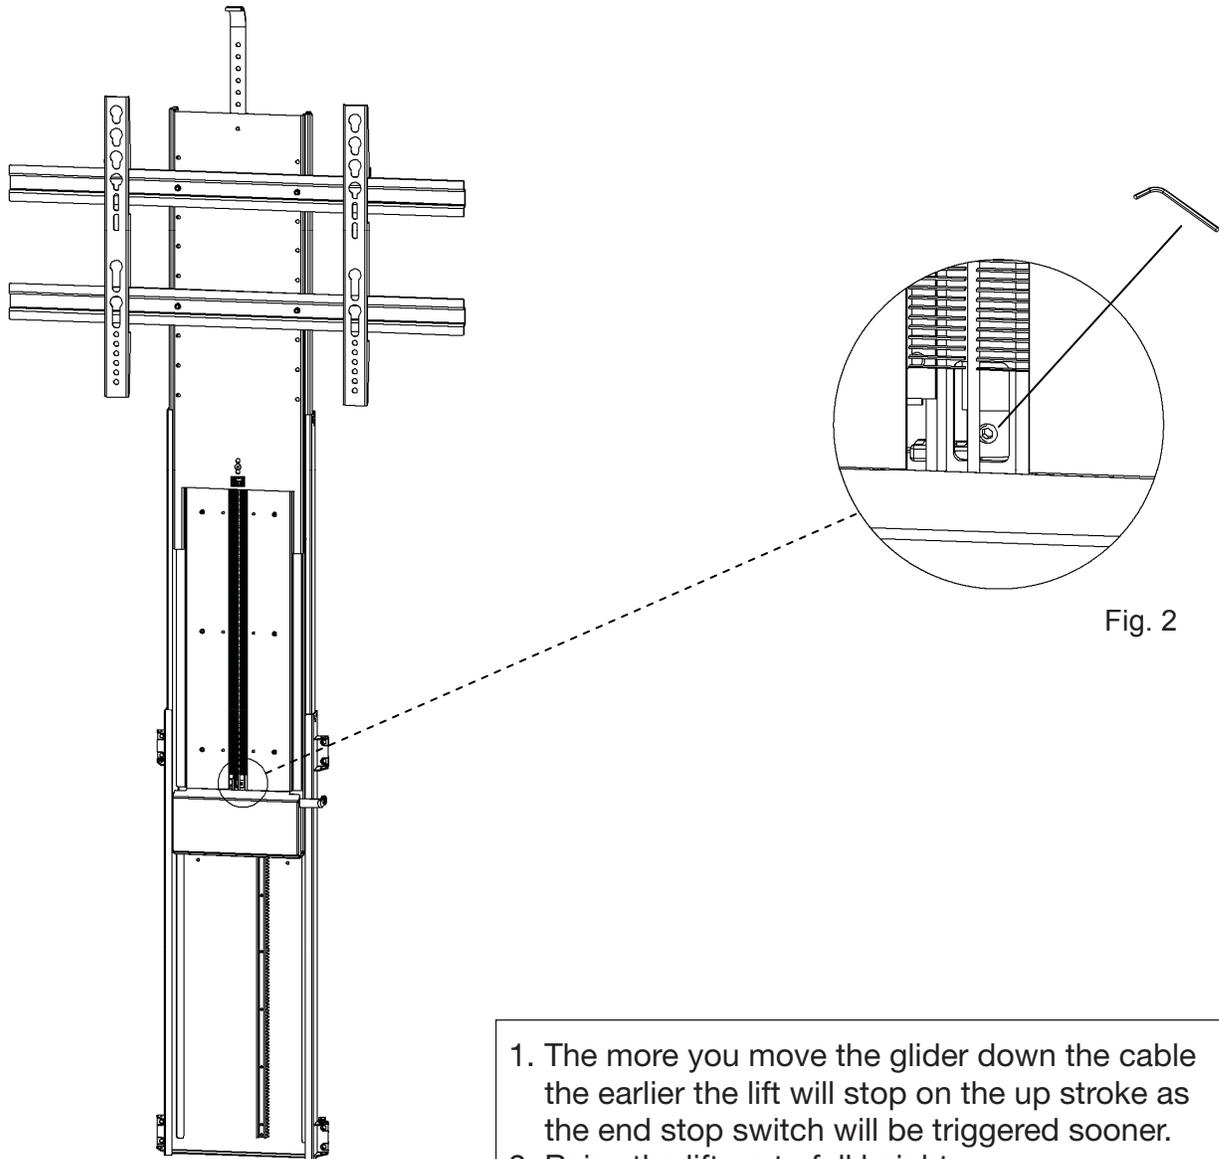

Fig. 2
3. You will see the glider on the cable below the nylon brushes (see fig.2)
4. Use a 2.5 mm Hex key to loosen the screw inside the glider. (see fig.2)